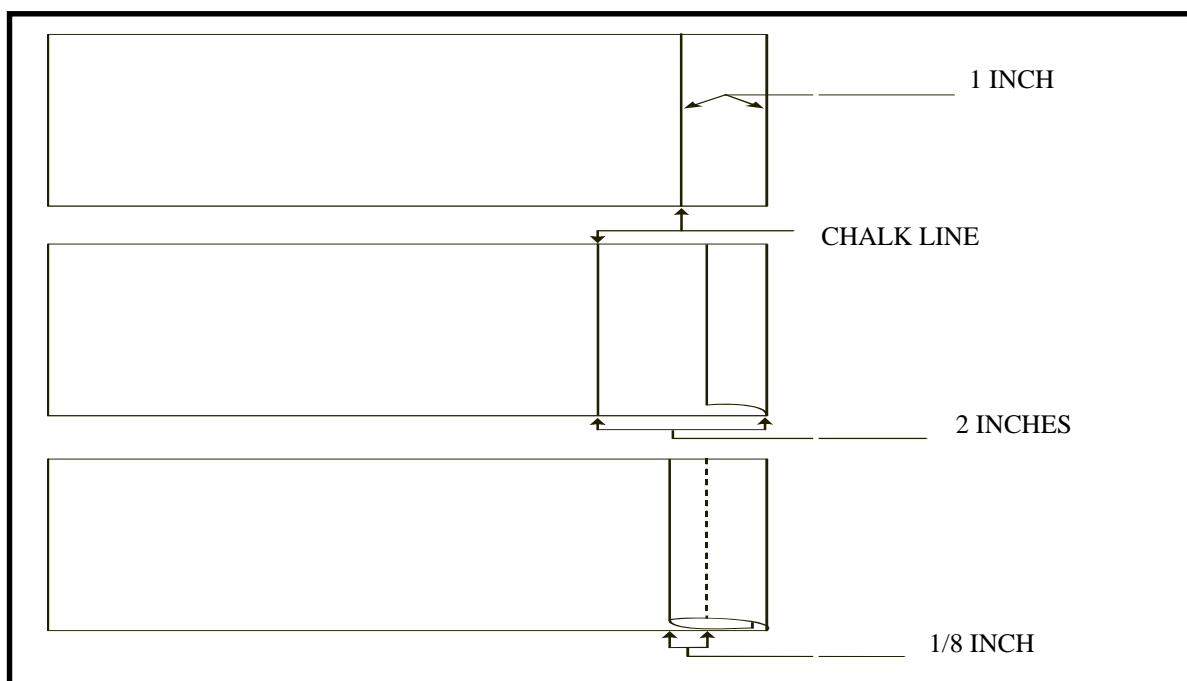

Figure 8-3. Single-edge hem
(1) Single-Edge Hem. A single-edge hem (Figure 8-3) is used to finish one edge on a canvas item that does not have grommets. To sew a single-edge hem--